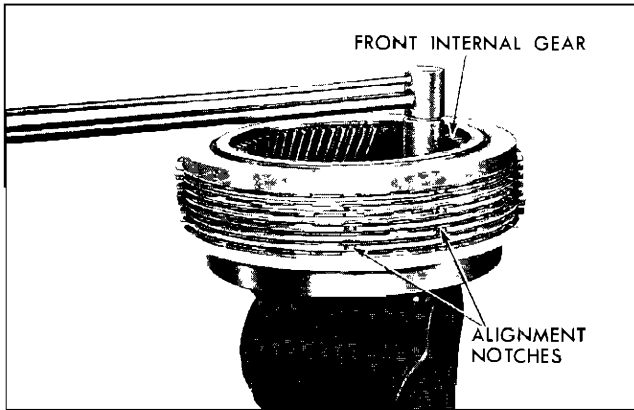

Fig. 82 Torquing Front Clutch Bolts
is a normal reaction from the oil absorbing characteristics of the facing material. The drive plates are flat and an even wear pattern will appear over the entire area. See Fig. 82 for proper unnesting of clutch plate notches on assembly.
8. Place entire assembly in soft-jawed vise with vise engaging large teeth on clutch housing (Fig. 82).